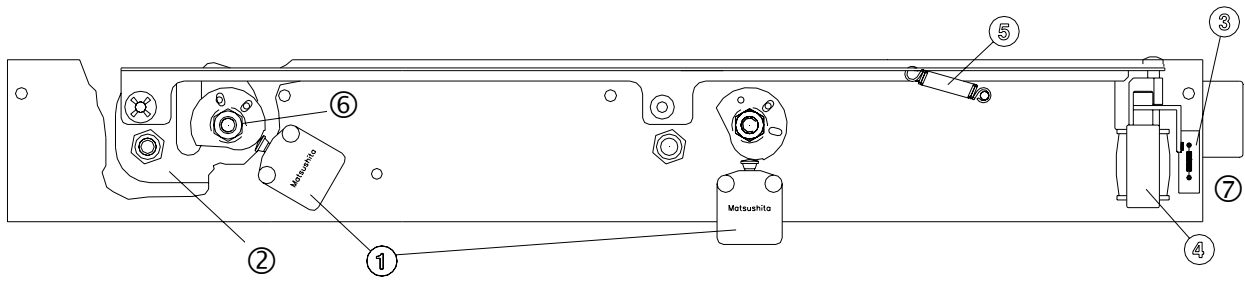

Fig. 23
| Fig. 23 | 11202913 | Lid Latch assy | 1 |
| Fig. 23 - ① | 86001406 | Lid micro-switch | 1 |
| Fig. 23 - ② | 11201185 | Latch | 2 |
| Fig. 23 - ③ | 39900043 | Solenoid switch (Reed Relay) | 1 |
| Fig. 23 - ④ | 85140275 | Solenoid | 1 |
| Fig. 23 - ④ | 85440187 | Solenoid Spring | 1 |
| Fig. 23 - ⑤ | 11250207 | Spring | 1 |
| Fig. 23 - ⑥ | 11201156 | Locking cam | 2 |
| Fig. 23 - ⑦ | 85440203 | Handle | 1 |